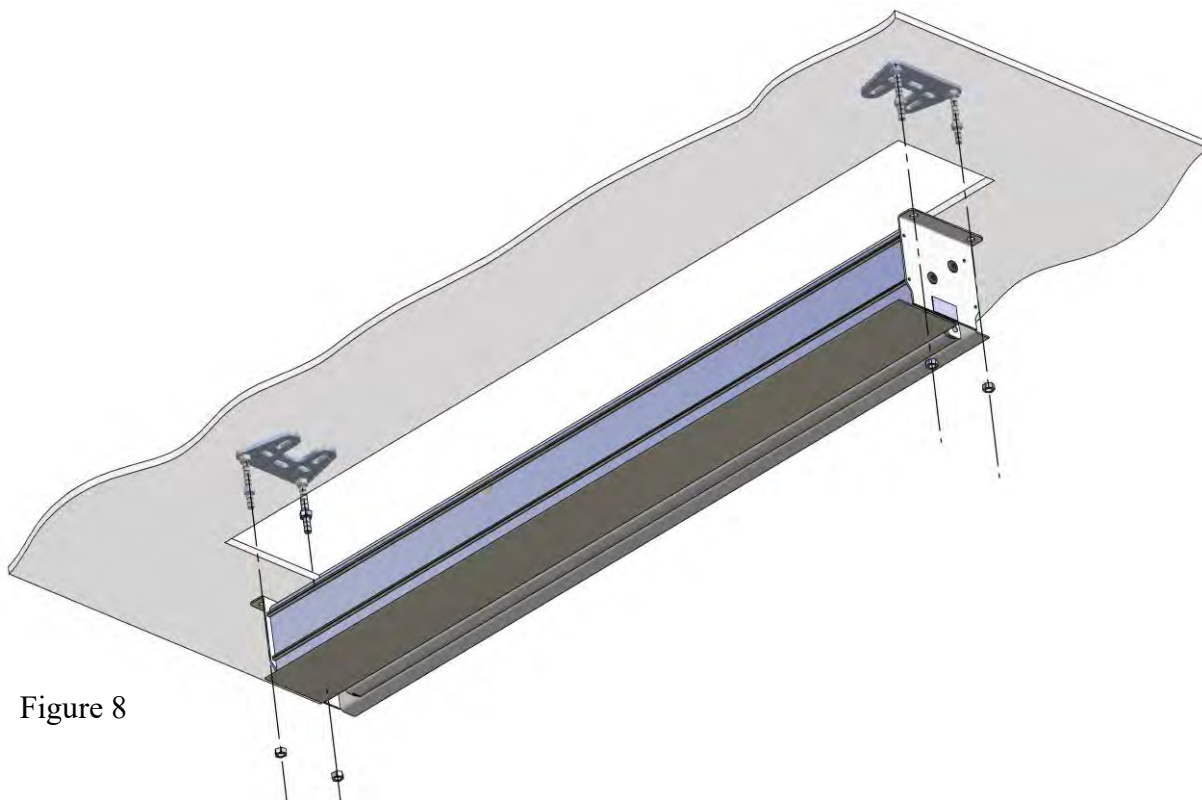

Figure 8
11. After connecting the power supply (see page 11), slide the screen housing on the rods and use the box wrench to tighten each of the M8 nuts. Check for stability of the entire assembly (**Figure 8**). A correctly installed screen shall be levelled in all planes. Adjust the position by turning the installation nuts in or out on the adequate threaded rods.